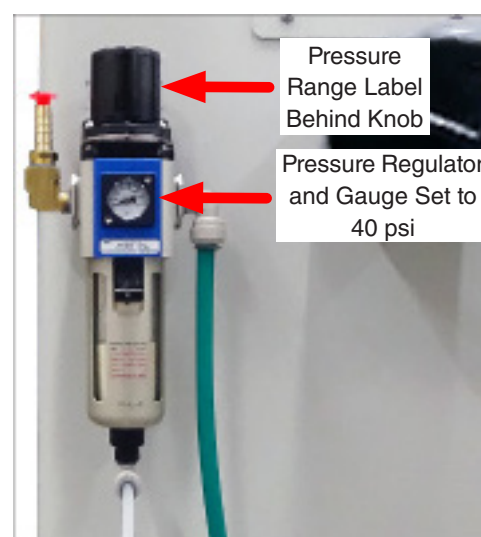

Figure 5.6b: Compressed air pressure regulator.
- The Q-FOG is equipped with a pressure regulator and gauge (Figure 5.6b).
- Incoming air pressure should be in this range: 40-150 psi (2.8 – 10.3 bar) as shown on label behind pressure regulator adjustment knob (Figure 5.6b).